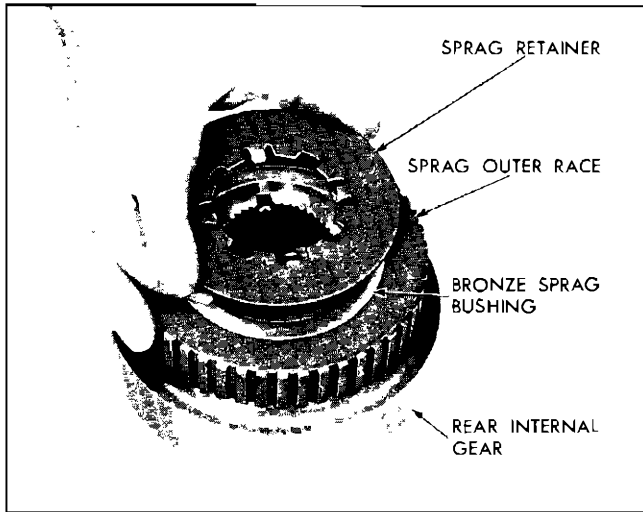

Fig. 88 Removing Sprag Retainer
1. Remove sprag retainer (Fig. 88).
2. Remove sprag outer race from sprag assembly and rear internal gear (Fig. 88).